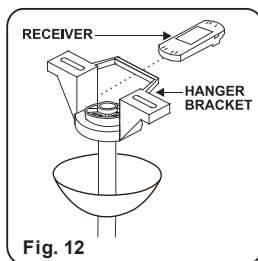

Fig. 12
**Step 1.** Insert Receiver into Hanger Bracket with the flat side of the Receiver facing the ceiling.(Fig.12)